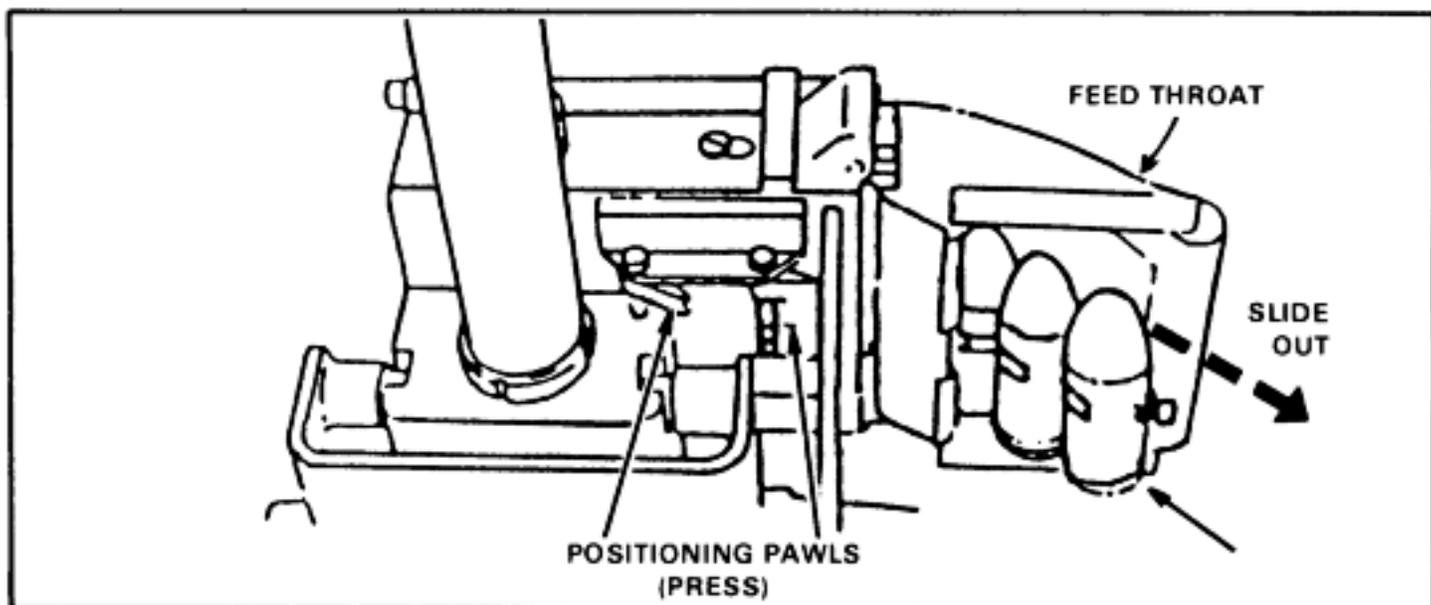

Figure 2-3. Removal of linked rounds from feeder.
(3) Take the ammunition from the feed tray by reaching beneath the feed tray and pressing the primary and secondary positioning pawls. At the same time, slide the linked rounds out of the MK 19 through the feed throat (Figure 2-3).